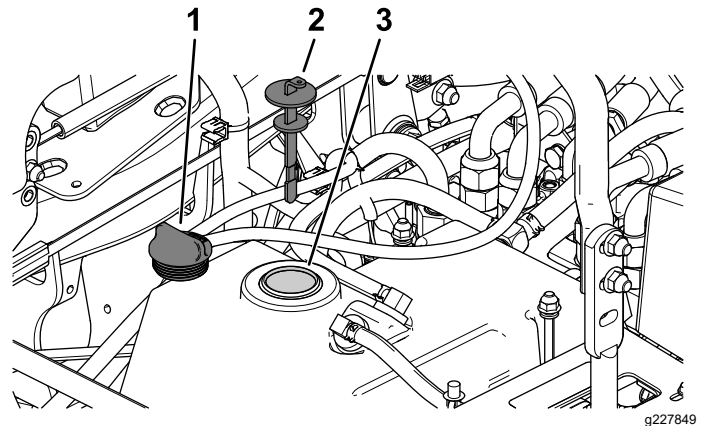

Figure 67
5. Remove the hydraulic-tank cap (Figure 67).
6. Remove the dipstick and wipe it with a clean rag (Figure 67).